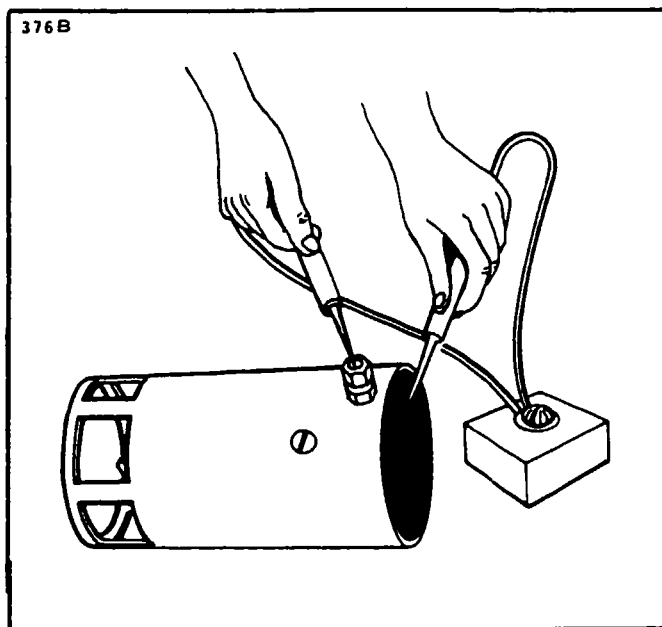

Figure 11-19. Testing Motor Fields for Grounds
a. Check the field coils for grounded windings. Disconnect the shunt field coil ground connection and make sure the brushes are not accidentally touching the frame. Using a test lamp and probes (Refer to Figure 11-19) touch one test probe to the motor terminal and the other test probe to the motor frame. If the test lamp lights, the field coils are grounded. Repair or replace field coils.